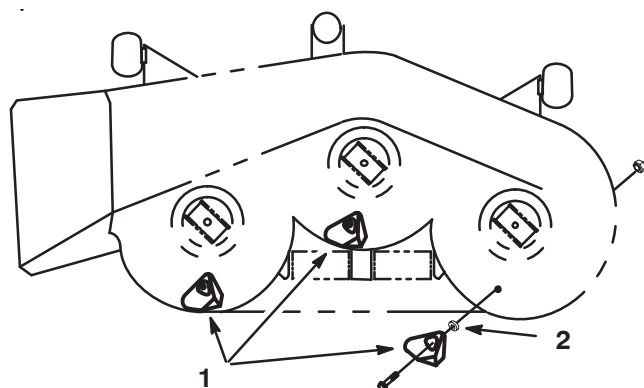

Figure 2
3. Place the spacers and kickers inside the mower deck while aligning the mounting holes (Fig. 2).
4. Secure each kicker to mower deck with a 5/16-18 x 1" bolt and 5/16-18 locknut (Fig. 2). The bolt heads are to be positioned inside the mower deck.